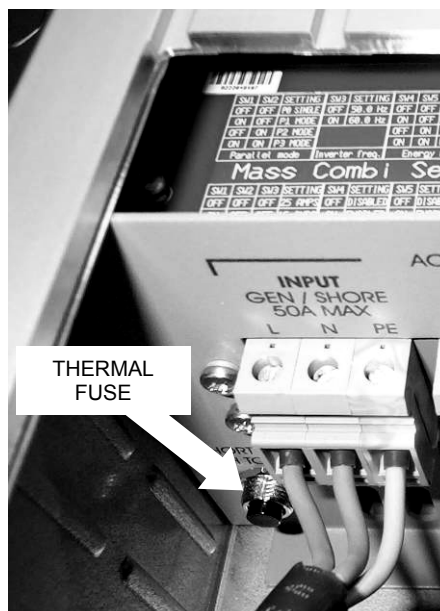

Figure 16: Reset of the thermal fuse
- 5 Wait for at least two minutes and then reset the thermal fuse by pushing the button inside the connection compartment (see figure 16).